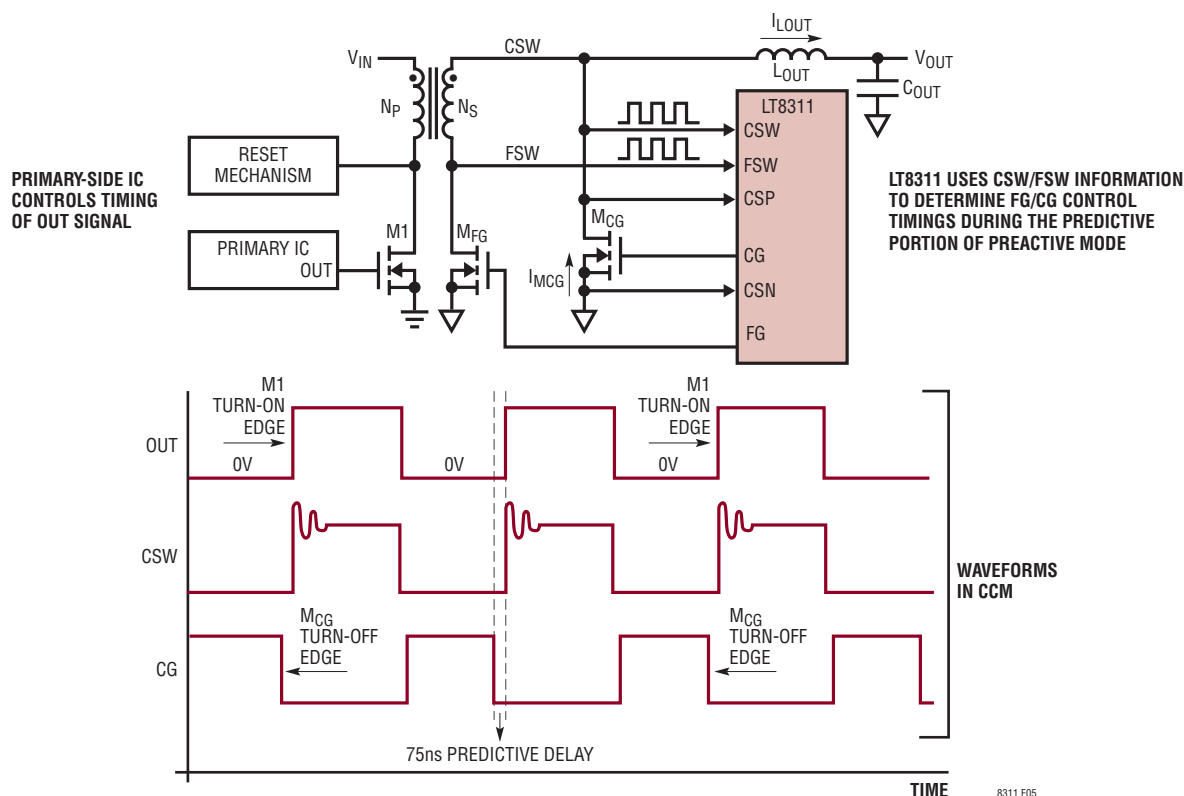

Figure 5. During the Predictive Portion of Preactive Mode, the LT8311 Phase Locks into the CSW Rising Edge and Turns Off  $M_{CG}$  75ns Prior to This Edge
"Preactive" is short for "predictive" + "reactive". In preactive mode, the LT8311 controls the secondary synchronous MOSFETs without any communication from the primary-side IC. In preactive mode, the catch MOSFET,  $M_{CG}$ , is turned on (CG rising edge in Figure 5) when the voltage on its drain, CSW, is detected to be below  $-150\text{mV}$ , and the forward MOSFET,  $M_{FG}$ , is detected to be off.  $M_{CG}$  is turned off when the first of two events after  $M_{CG}$ 's turn-on occurs:
- **Predictive  $M_{CG}$  Turn-Off** (Figure 5): In predictive turn-off, the LT8311 predicts when M1 will turn on in the next cycle, and turns off  $M_{CG}$  100ns prior to this event. Predictive turn-off of  $M_{CG}$  prevents cross conduction between  $M_{CG}$  and M1. M1's turn-on timings are predicted by phase locking to the rising edge of present and past CSW cycles. Predictive turn-off relies on the periodicity of M1's turn-on edge, an inherent aspect of fixed-frequency operation. Furthermore, the predictive turn-off is designed to be independent of the duty cycle of the system, which allows  $M_{CG}$  to be correctly turned off, even during load/line transients. Predictive turn-off will typically be the dominant turn-off mechanism for  $M_{CG}$  in CCM.